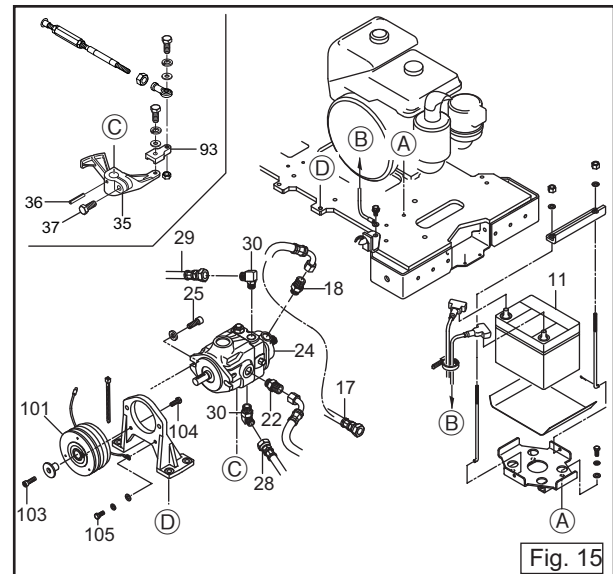

Fig. 15
2. Remove the electromagnetic clutch (101) that is attached to the hydraulic pump. (Fig. 15)
4. Remove the mounting bolts (25) (x2) for the variable pump and the pump bracket, and then separate the variable pump and the pump bracket. (Fig. 15)
5. Loosen the bolt (37) for the PV lever (35) mounted to the trunnion shaft of the variable pump (24) and remove the PV lever (35) after removing the spring pin (36). (Fig. 15)